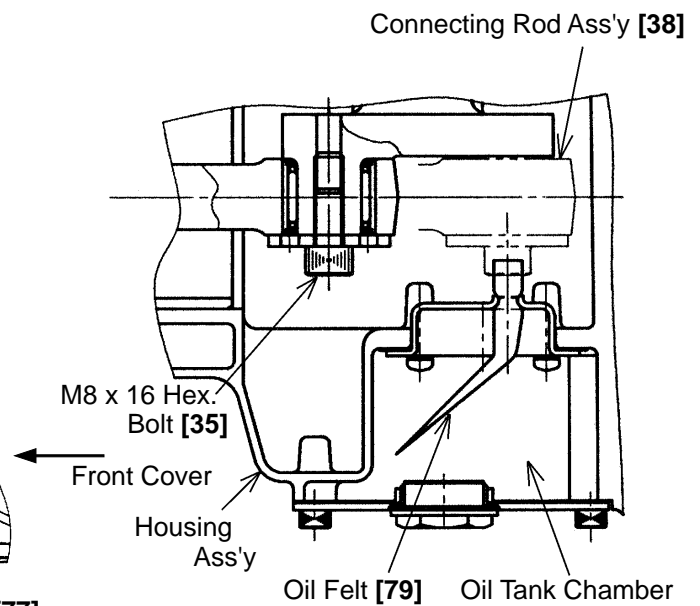

Fig. 15
- 4) Assemble the Connecting Rod Ass'y [38] onto the Crank Shaft [37], rotate the Crank Shaft by hand, and confirm that the Oil Felt [79] comes into contact with the Seal Lock Hex. Socket Hd. Bolt M8 x 16 [35] which fixes the Connecting Rod Ass'y [38]. (Fig. 15)
- 5) After mounting the Felt Holder (C) Ass'y [77], the Oil Felt [79] must be bent toward the Front Cover [7] side as illustrated in Fig. 15.